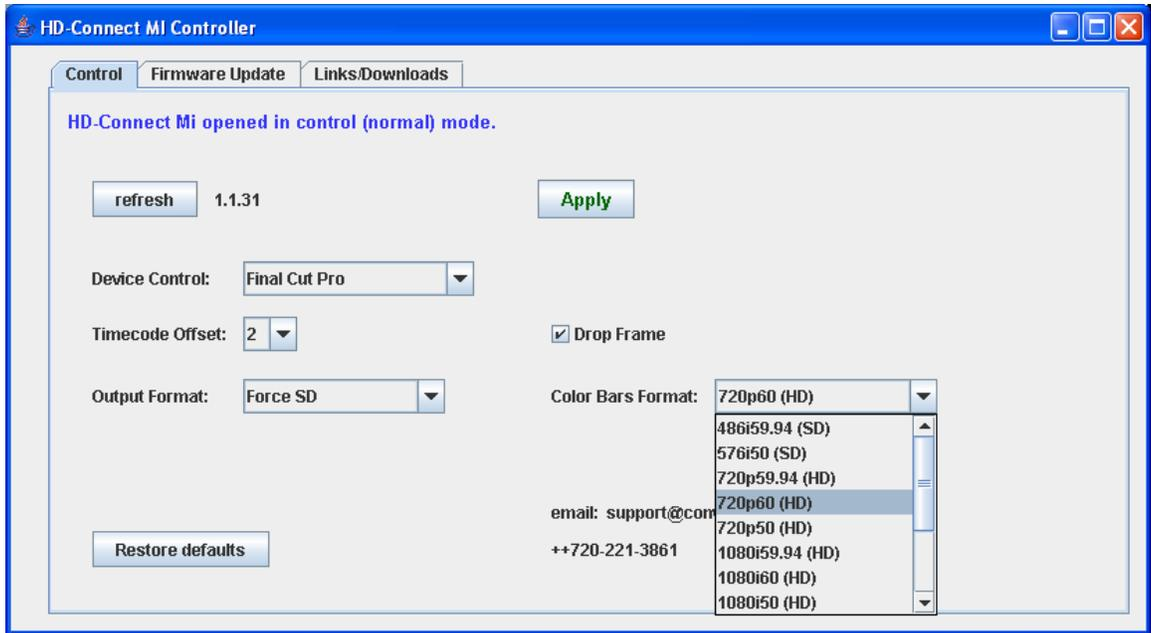

Figure 8 Color Bars Selection
- 4) *Color Bars*. This selects the output test pattern when your HDMI source is turned off or the HDMI cable is disconnected. Figure 8 illustrates the various selections.